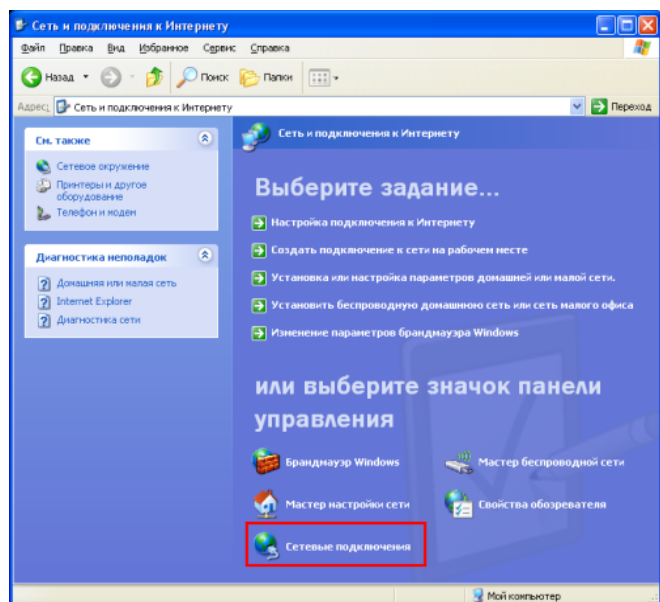

Figure 4.2 – Network connection choice
- 2) Choose **Network connection** (view Figure 4.2)